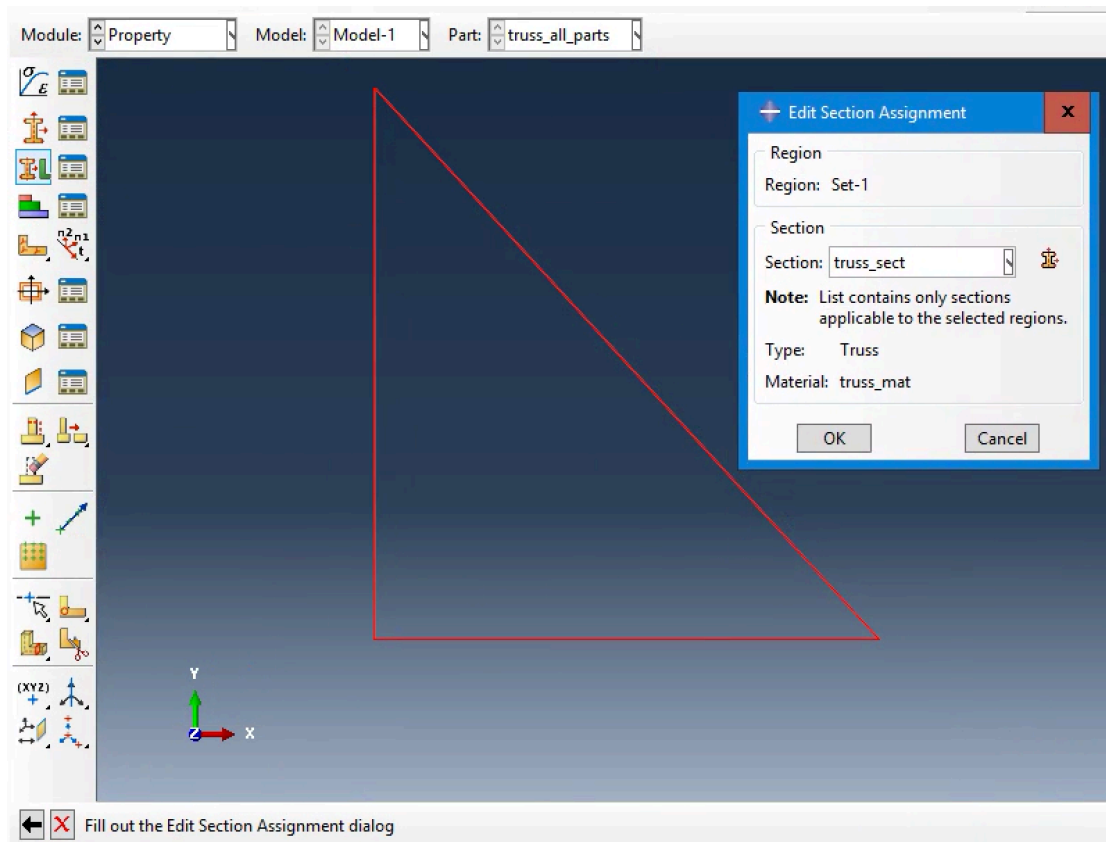

Figure 14 Assigning sections to elements
- Then, the defined section should be assigned to the corresponding members (in this case all members). By clicking on the **Assign Section** button, the message **Select the regions to be assigned a section** will be appeared in the prompt area. You can select multiple members by either keeping the **Shift** key and clicking on the elements or drawing a box including all the members. When you select the elements with similar sections (in this case, all elements), click on the **Done** button. In the Edit Section Assignment window, choose the truss_sect section (Figure 14) and click on **OK**. In the case of various element sections, the same procedure should be repeated until all the defined sections are assigned to their corresponding members.